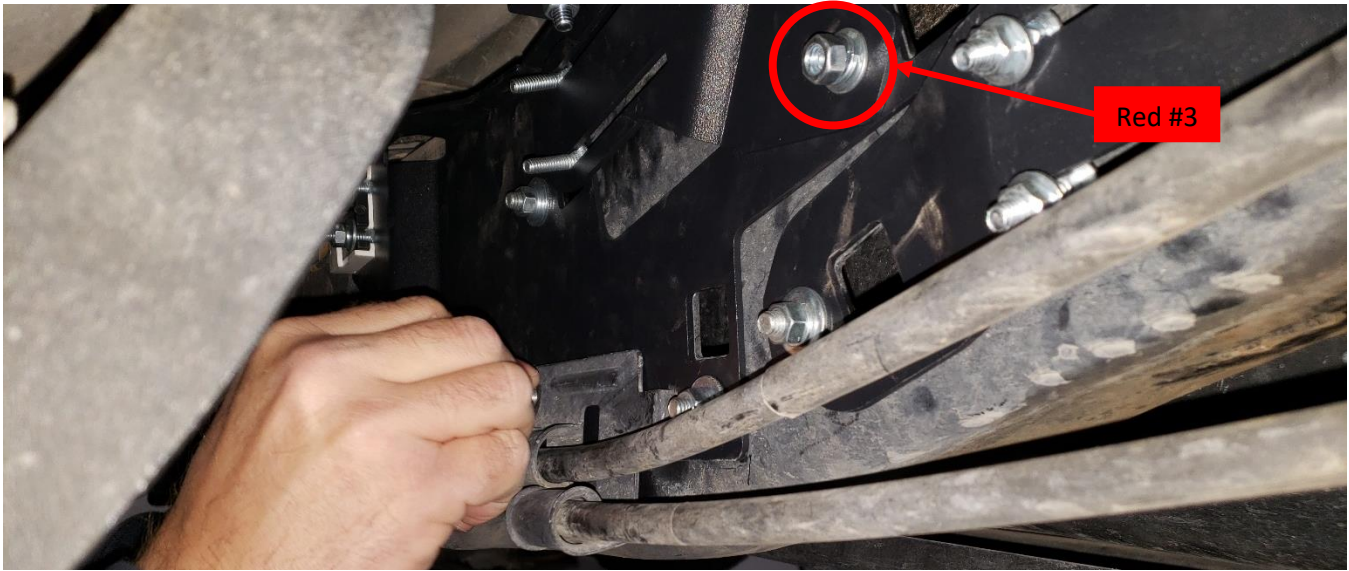

Figure 32 - Reinstalling brake bracket over RAPTOR-301
10.9.8. Secure RAPTOR-303 over RAPTOR-301 to vehicle frame using hardware #2, #3, #5, #7, & #17, as shown circled (Red #3) in Figure 32 above.